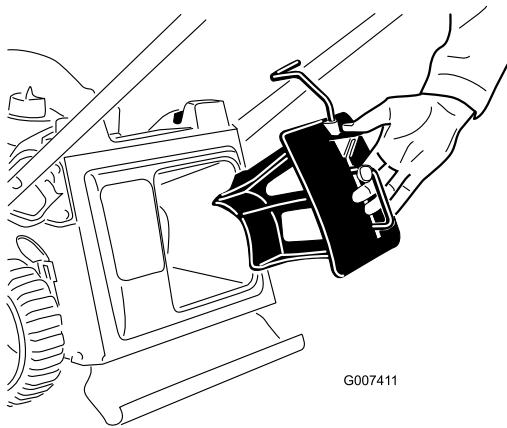

Figure 8
1. Insert the recycle plug into the mower, if it isn't already installed (Figure 8).